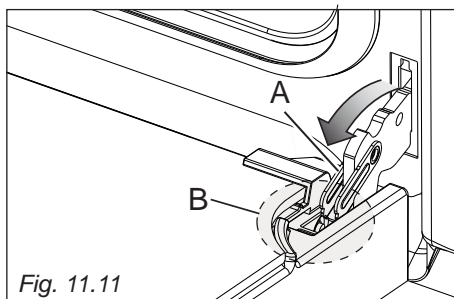
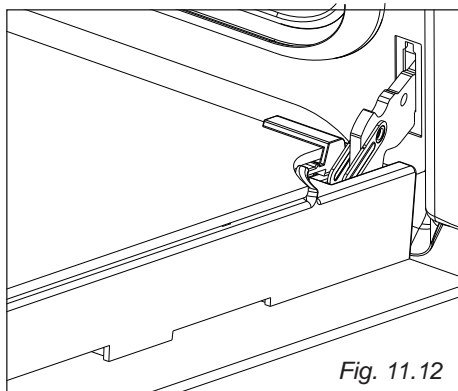

Fig. 11.11
Fig. 11.12
- Open the lever "A" completely on the left and right hinges (fig. 11.11).
- Gently close the door (fig. 11.11) until left and right hinge levers "A" are hooked to part "B" of the door (fig. 11.12).